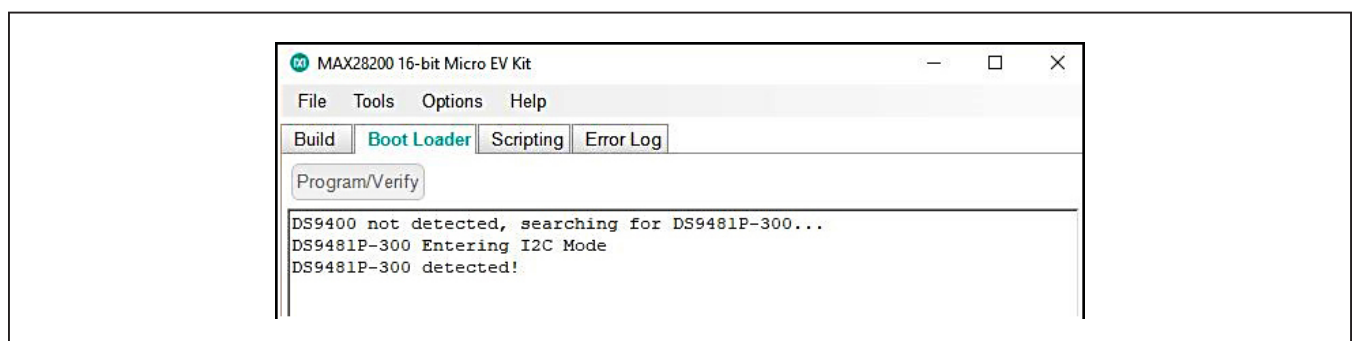

Figure 6. DS9481 Device Detected. If a Device Is Not Detected, See Step 5 in the Software Installation Section.
- 2) Select the **Boot Loader** tab (Figure 6).